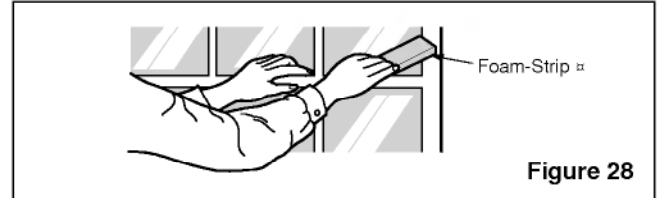

Figure 28
11. Cut the foam-strip \times to the proper length and insert between the upper window sash and the lower window sash. (See Fig. 28)